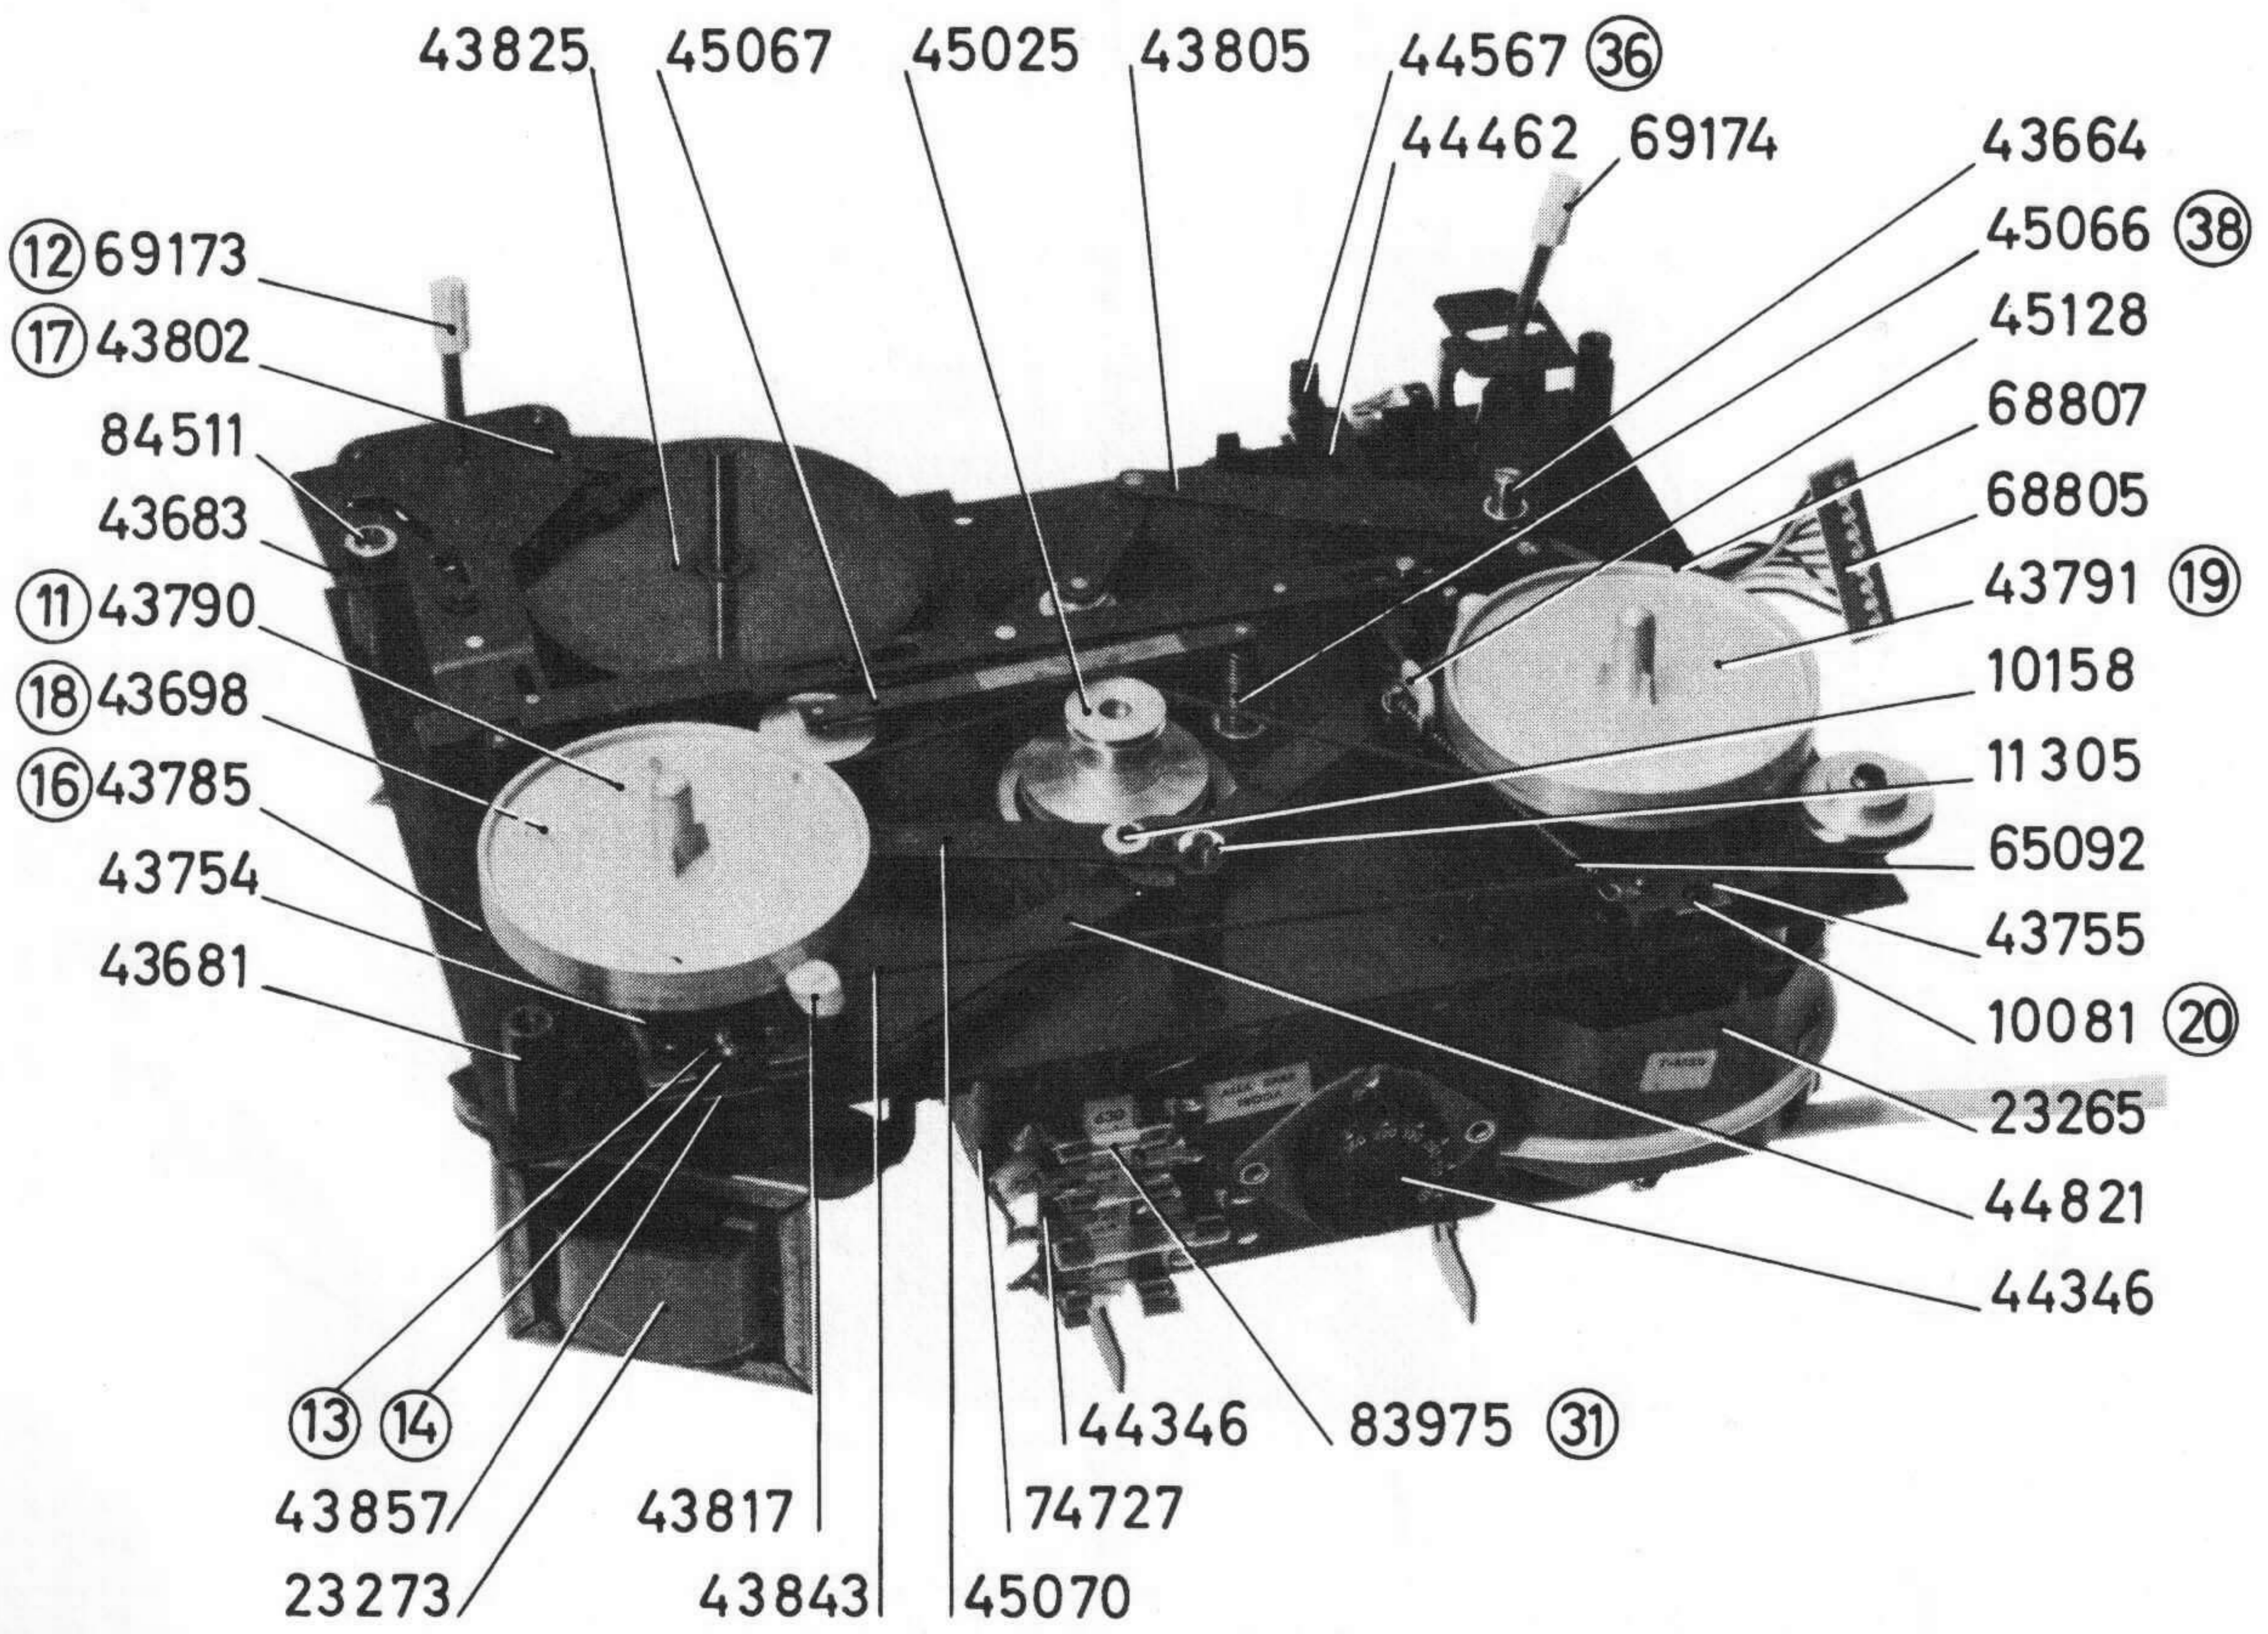

Fig. 3
FÖR ATT JUSTERA DETTA ANVÄNDES EN TOMSPOLE MED EN INNERDIAMETER AV 57 MM, PÅ VILKEN ÄR UPP-LINDAD EN BIT SKALLINA. DENNA SPOLE PLACERAS PÅ MAGNEFONENS HÖGRA SPOLHJUL (11), VAREFTER SKALLINANS FRIA ÄNDE FÄSTES I EN FJÄDERVÅG. FÖR DEN HÖGRA SPAKEN (STARTSPAKEN 12) TILL LÄGET MÄRKT MED EN PIL, JUSTERA MED JUSTERSKRUVEN (13) TILLS VÅGEN VISAR 40 ± 5 GRAM. FÖR SEDAN STARTSPAKEN TILL HÖGER, MÄRKT MED TVÅ PILAR, JUSTERA MED JUSTERSKRUVEN (14) TILLS VÅGEN VISAR 130 ± 10 GRAM. SE FIG. 3.
- B) KONTROLLERA ATT ETT AVSTÅND PÅ 0,5 - 0,7 MM FINNES MELLAN SPOLHJULETS (11) FRIKTIONSFILT OCH REMSKIVANS (16) ÖVRE FRIKTIONSYTA. FÖLJANDE JUSTERING GÖRES: PÅ MANÖVERARMEN (17) FINNES EN JUSTERMUTTER (18). AVSTÅNDET ÖKAS GENOM ATT SKRUVA UPP JUSTERMUTTERN. STARTSPAKEN (12) SKALL STÅ I NOLLÄGE, DÅ DENNA JUSTERING UTFÖRES. SE FIG. 3.
- C) FINSÄKRINGEN 630 mA (31) UTLÖST. SE FIG. 3.
FRIA ÄNDE FÄSTES I EN FJÄDERVÅG. FÖR DEN HÖGRA SPAKEN (STARTSPAKEN 12) TILL LÄGET MÄRKT MED TVÅ PILAR ÅT VÄNSTER, JUSTERA MED JUSTERSKRUVEN (20) TILLS GRAMVÅGEN VISAR 90 - 100 GRAM. SE FIG. 3.